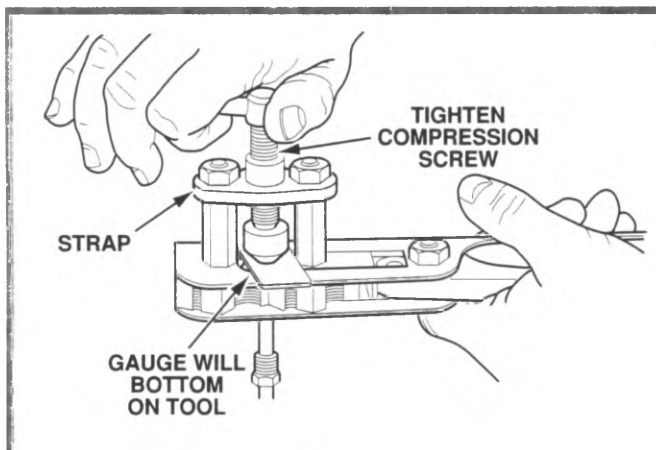

Figure 4-21, First Flare
8. Insert the proper gauge pin into the tube and swing strap into position. Tighten compression screw until gauge bottoms on tool (figure 4-21).